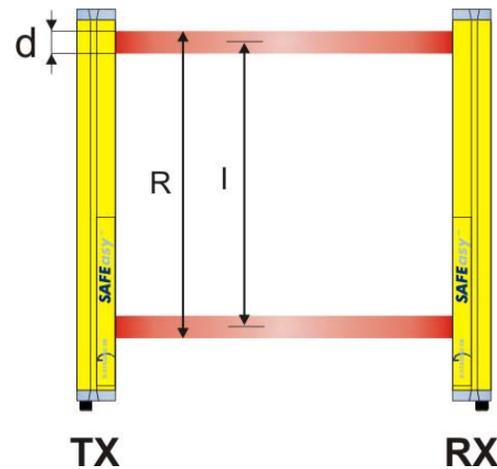

Fig. 2
Fig.2 shows the optical distance between the optic interaxis (I) and the resolution (R), with reference to the safety light curtains for body protection.